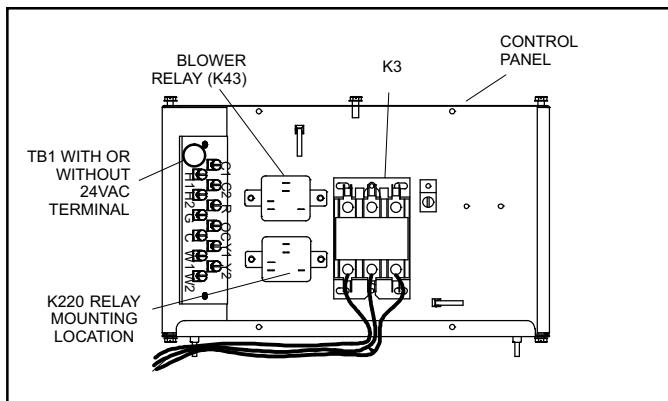

Figure 10. Typical TAA Control Panel
**Low Voltage Connections –** Before proceeding it must be determined whether there is a 24VAC terminal on the TB1 terminal board (see figure10 for location if present). There are two electrical installation sections, one for units with a TB1 24VAC terminal and one without.